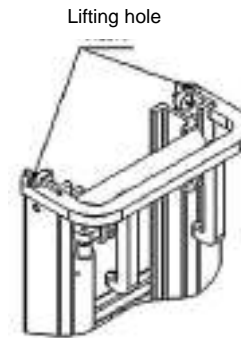

Fig. 2-73
(1) Lifting of Lifting System (Fig. 2-73)